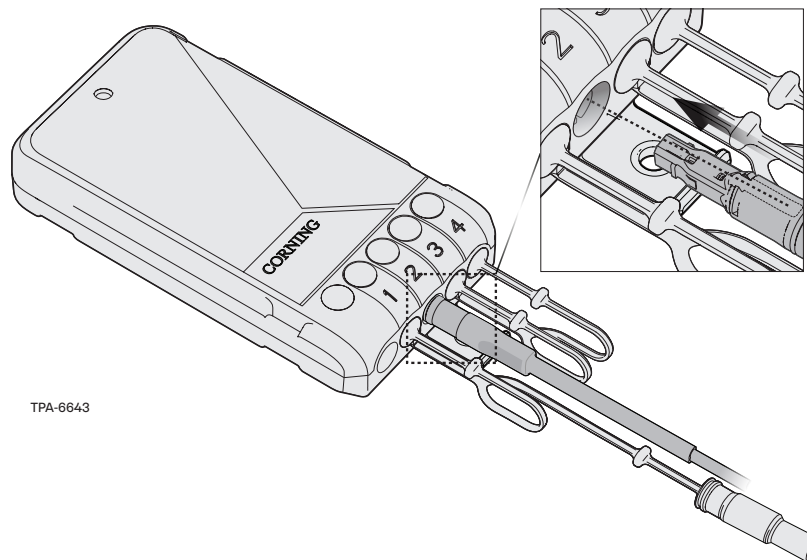

Figure 28
**Step 2:** Align the notch on top of the connector, with the port button on the terminal (Figure 28).